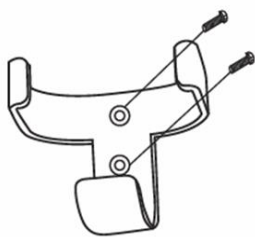

Fig. 11a
1. Locate a suitable wall to fix the remote control holder with the 2 screws. (Fig. 11a).